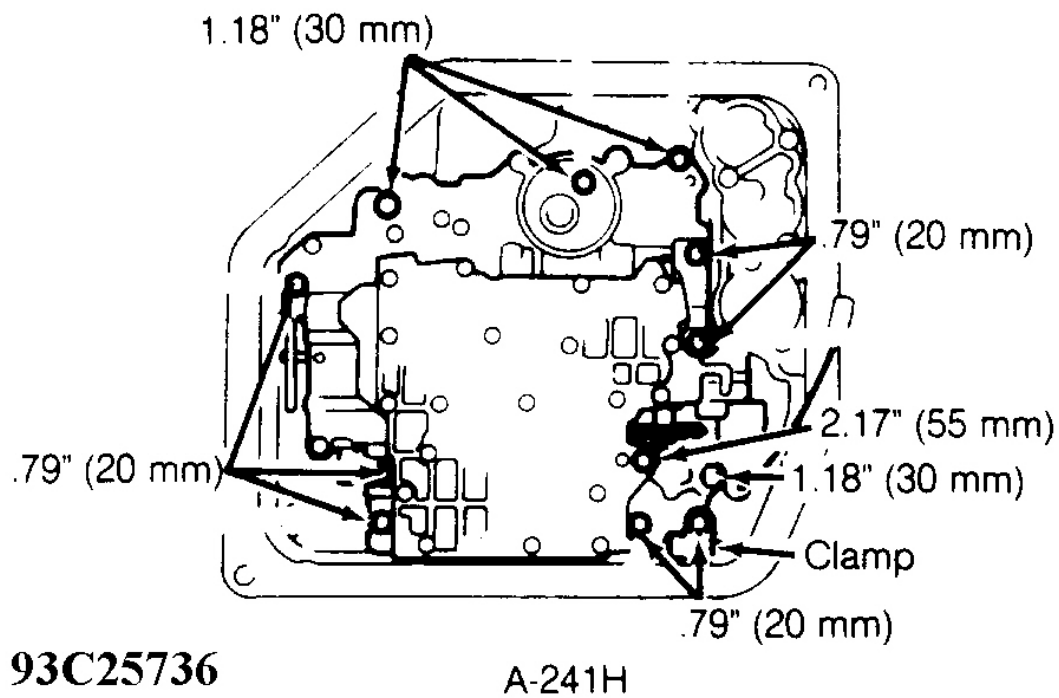

Fig. 1: Locating Control Valve Assembly Bolts
1. Install new 2nd brake apply gasket. While holding cam down, slip cable end into slot. **DO NOT** tangle solenoid wire. Install control valve assembly. Hand tighten control valve assembly bolts. See **Fig. 1** . Tighten bolts to 97 INCH lbs. (11 N.m). Connect solenoid wiring connector(s).